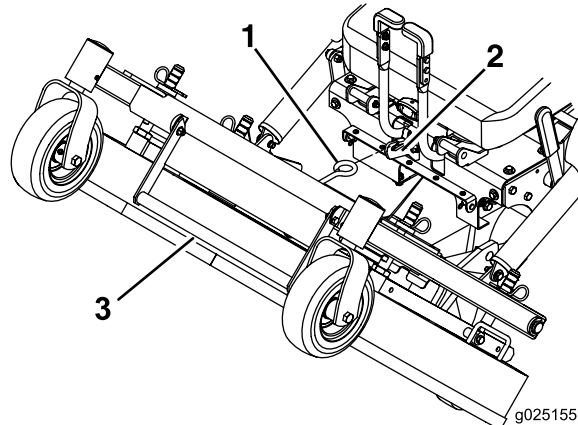

Figure 20
3. Using deck-lift handle, lift deck up and latch in up position (latch is located at front center of seat) (Figure 20).
1. While firmly holding onto deck-lift handle, unhook mower deck latch from the machine and slowly lower mower deck to ground (Figure 20).